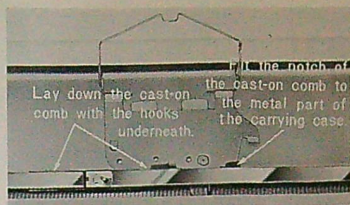

Fig. 4
a. Open the springs and replace the cast on comb in the upper case. (See Fig.4)